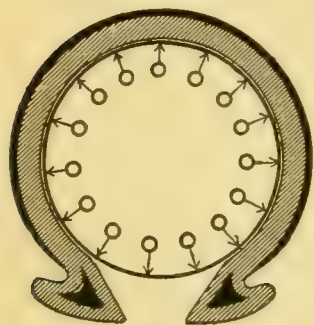

FIGURE 118. — The circles represent molecules bombarding the tube.
77. Explanation and Limitations of Boyle's Law. — The pressure of a gas in a container is not due to the weight of the gas, but to the fact that its molecules strike the walls of the containing vessel with the speed of a rifle bullet. A rapid stream of bullets from a machine gun will batter down an obstruction of considerable strength. In the automobile tire, millions of molecules are constantly striking every square inch of the wall of the inner tube (Figure 118), and have the same effect as that of a force of many pounds con-